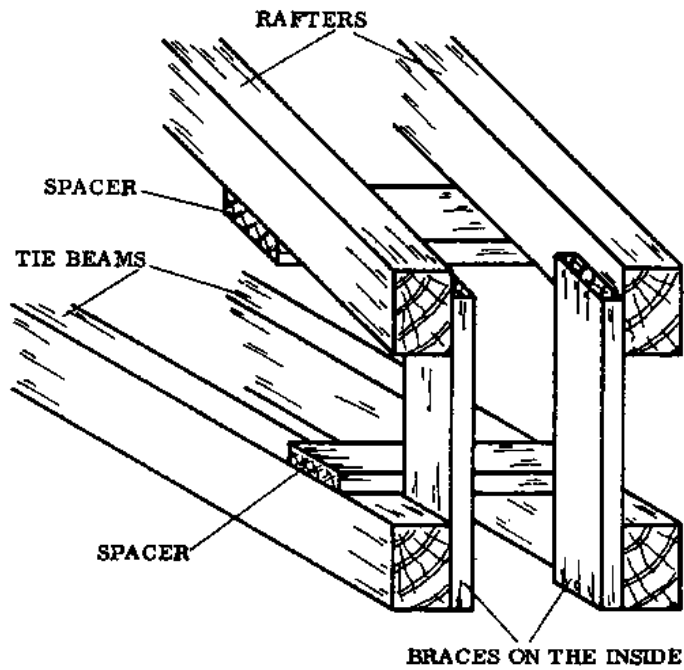

Fig. 4
- Assemble the second truss on top of the first one. Be careful to nail the braces so that later when the two trusses are combined, the braces will all be on the inside (Fig. 4).